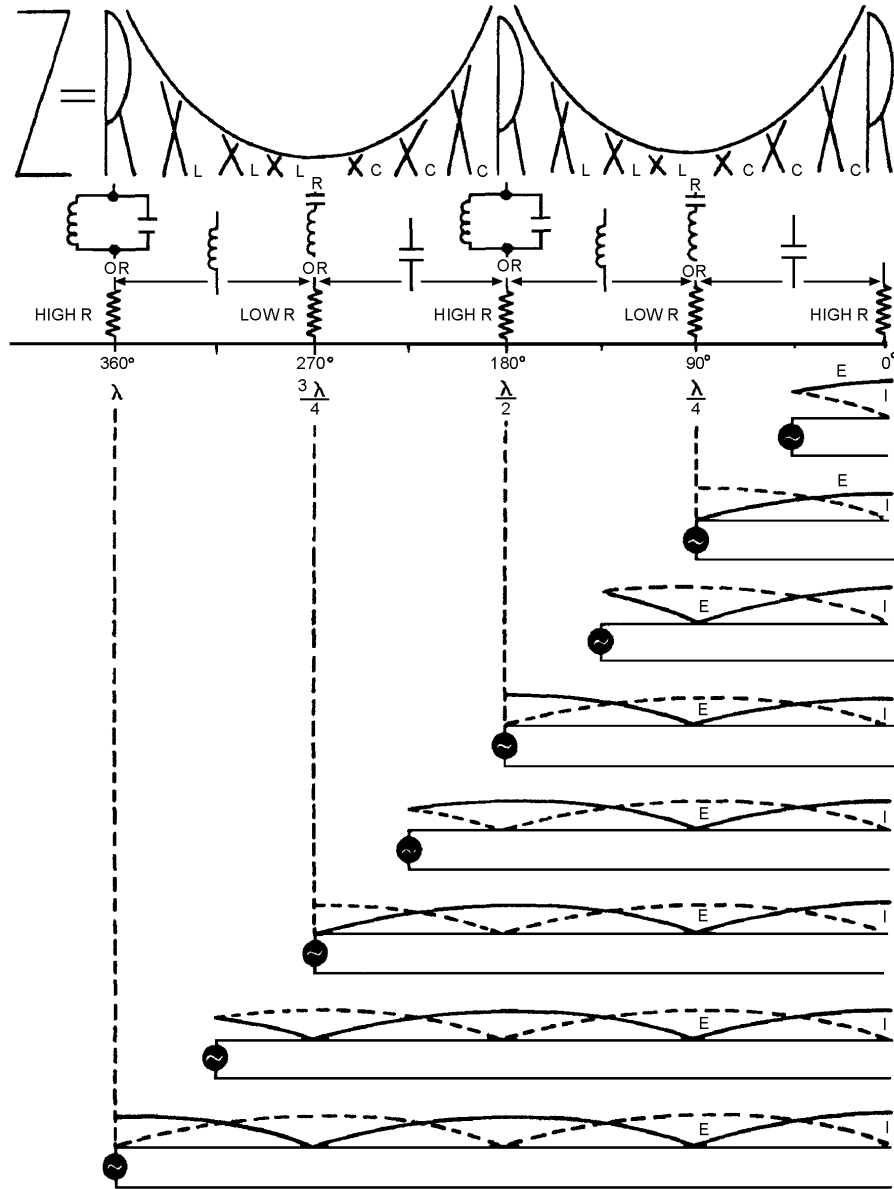

Figure 3-32.—Voltage, current, and impedance on open line.
In figure 3-32, the impedance (Z) the generator sees for various lengths of line is shown at the top. The curves above the letters of various heights show the relative value of the impedances presented to the generator for the various line lengths. The circuit symbols indicate the equivalent electrical circuits for the transmission lines at each particular length. The standing waves of voltage and current are shown on each length of line.